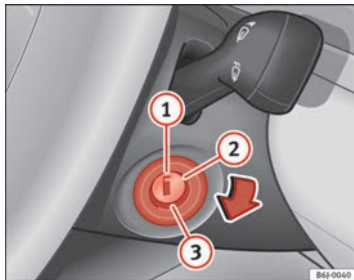

Fig. 107 Ignition key positions
In this position ⇒ fig. 107 the ignition and the engine are OFF and the steering may get locked.
- Turn the ignition key to position ⇒ fig. 107 ②. The indicator lamp  will light for engine pre-heating.
- When the warning lamp turns off, turn the key to position ③ to start the engine. Do not press the accelerator.
- Turn the ignition key to position ⇒ fig. 107 ①.